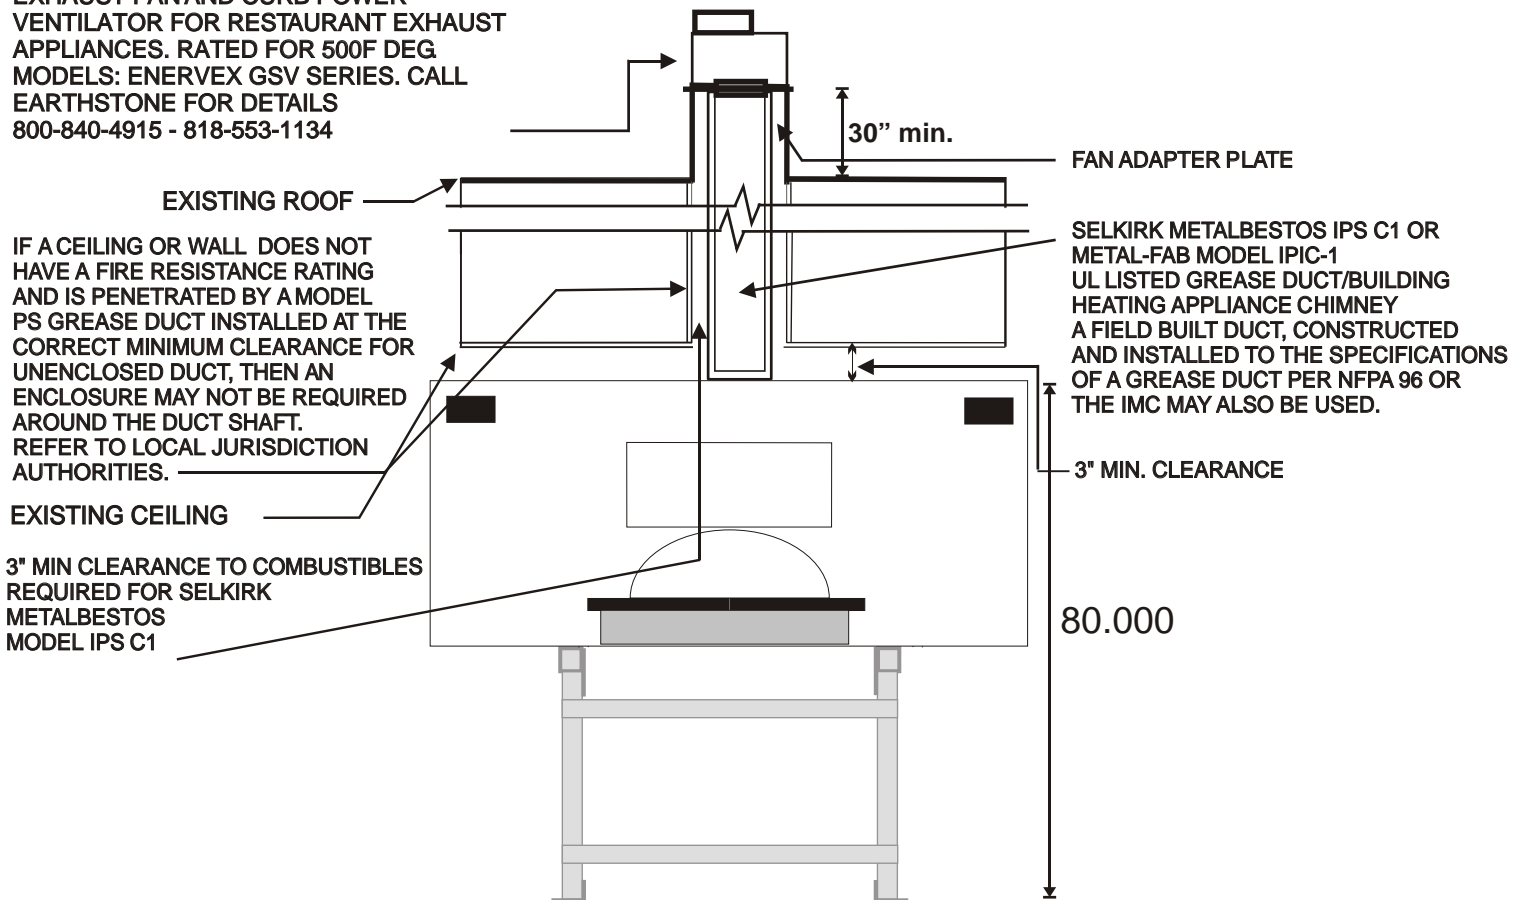

FIGURE 18
1. **A U.L. listed Grease Duct/Building Heating Appliance Chimney may be connected to the flue collar above the primary hood of the oven. Refer to Fig. 18, pg. 9. For specific installation requirements refer to Selkirk Metalbestos Model PS and IPS Grease Duct Installation Instructions or Metal-Fab IPIC Installation Instructions.**